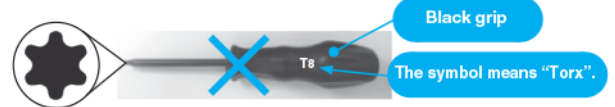

Fig. 3 "Torx" Wrench (Do NOT use it for MEW)
- 2) Ref. to Fig. 3 for "Torx" Wrench. (Black grip)